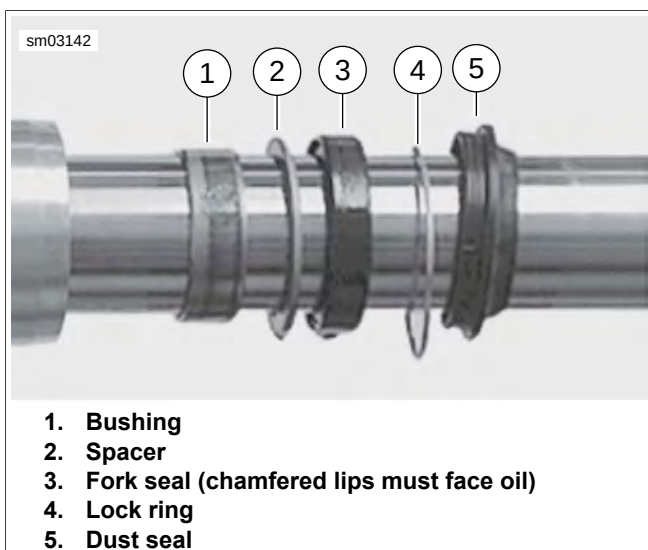

Figure 2-100. Fork Tube Shown Installed In Order of Installation
- See Figure 2-100. Use sleeve from fork seal driver and install chrome dust cover (not shown) and components onto fork slider in order shown.